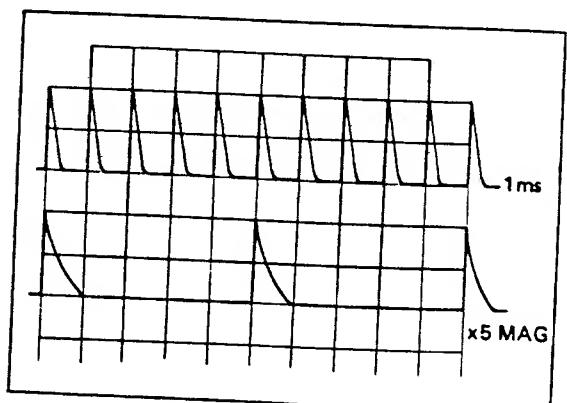

Fig. 18.
**MAG Centering and MAG Gain Adjustment** Fig. 18.